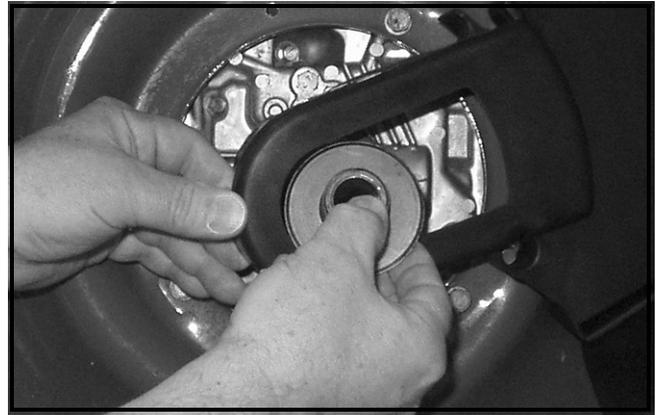

FIGURE 13
24. Carefully lift the front portion of the main baffle sufficiently to remove the lower half of the engine pulley. See Figure 13.
36. Re-install the lower pulley half onto the crankshaft. Ensure the belt is not trapped against the crankshaft. Refer to Step 24 and Figure 13.